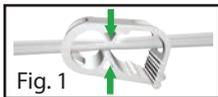

Fig. 1
4. Tightly close both tubing clamps to avoid spilling tubing contents (Fig. 1).
5. Tightly close both tubing clamps to avoid spilling tubing contents (Fig. 1).